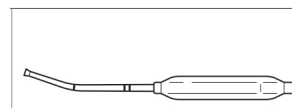

Figure 7: Sphenoid Bend
– **Sphenoid Sinuses:** When treating the sphenoid sinus ostia, a slight bend (Figure 7) is recommended.